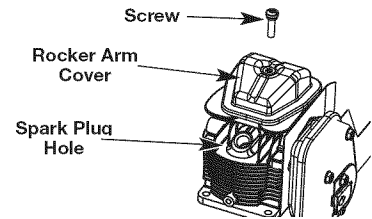

Fig. 28
5. Clean dirt from around the rocker arm cover. Remove the screw holding the rocker arm cover with a large flat blade screwdriver or Torx T-25 bit (Fig. 28). Remove the rocker arm cover and gasket.
- The piston is at the top of its travel. This should be done by looking into the spark plug hole. (Fig. 28)